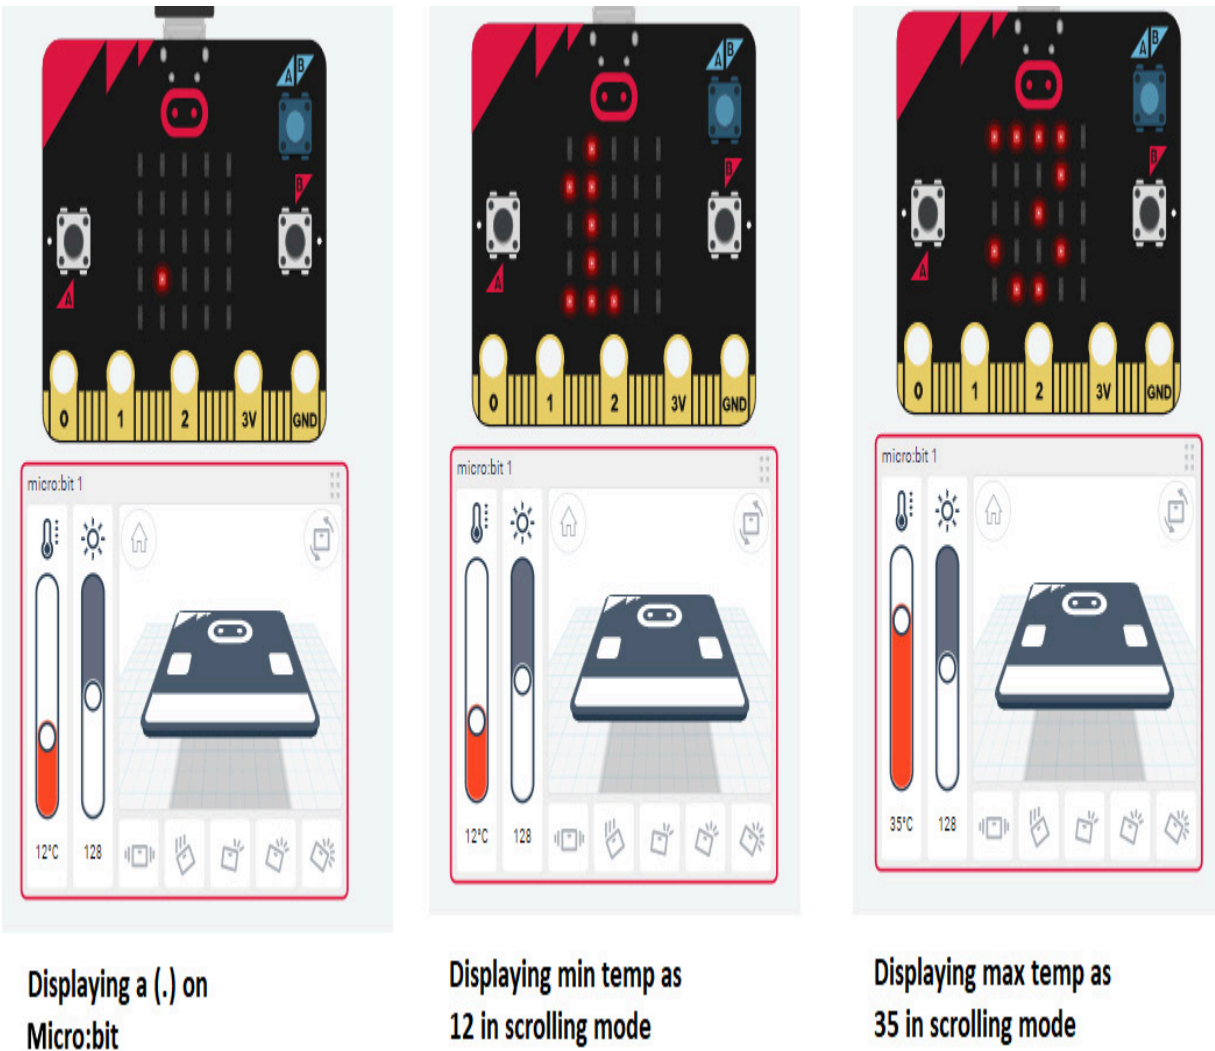

Figure 14.3 – Displaying the minimum and maximum temperature of the BBC Micro:bit
*Figure 14.3* shows the possible simulations related to this system. In this case, the initial temperature was 25 degrees Celsius. We have varied the temperature between 12 to 35 degrees. Therefore, by pressing the related buttons, we can also display the minimum and maximum temperatures: